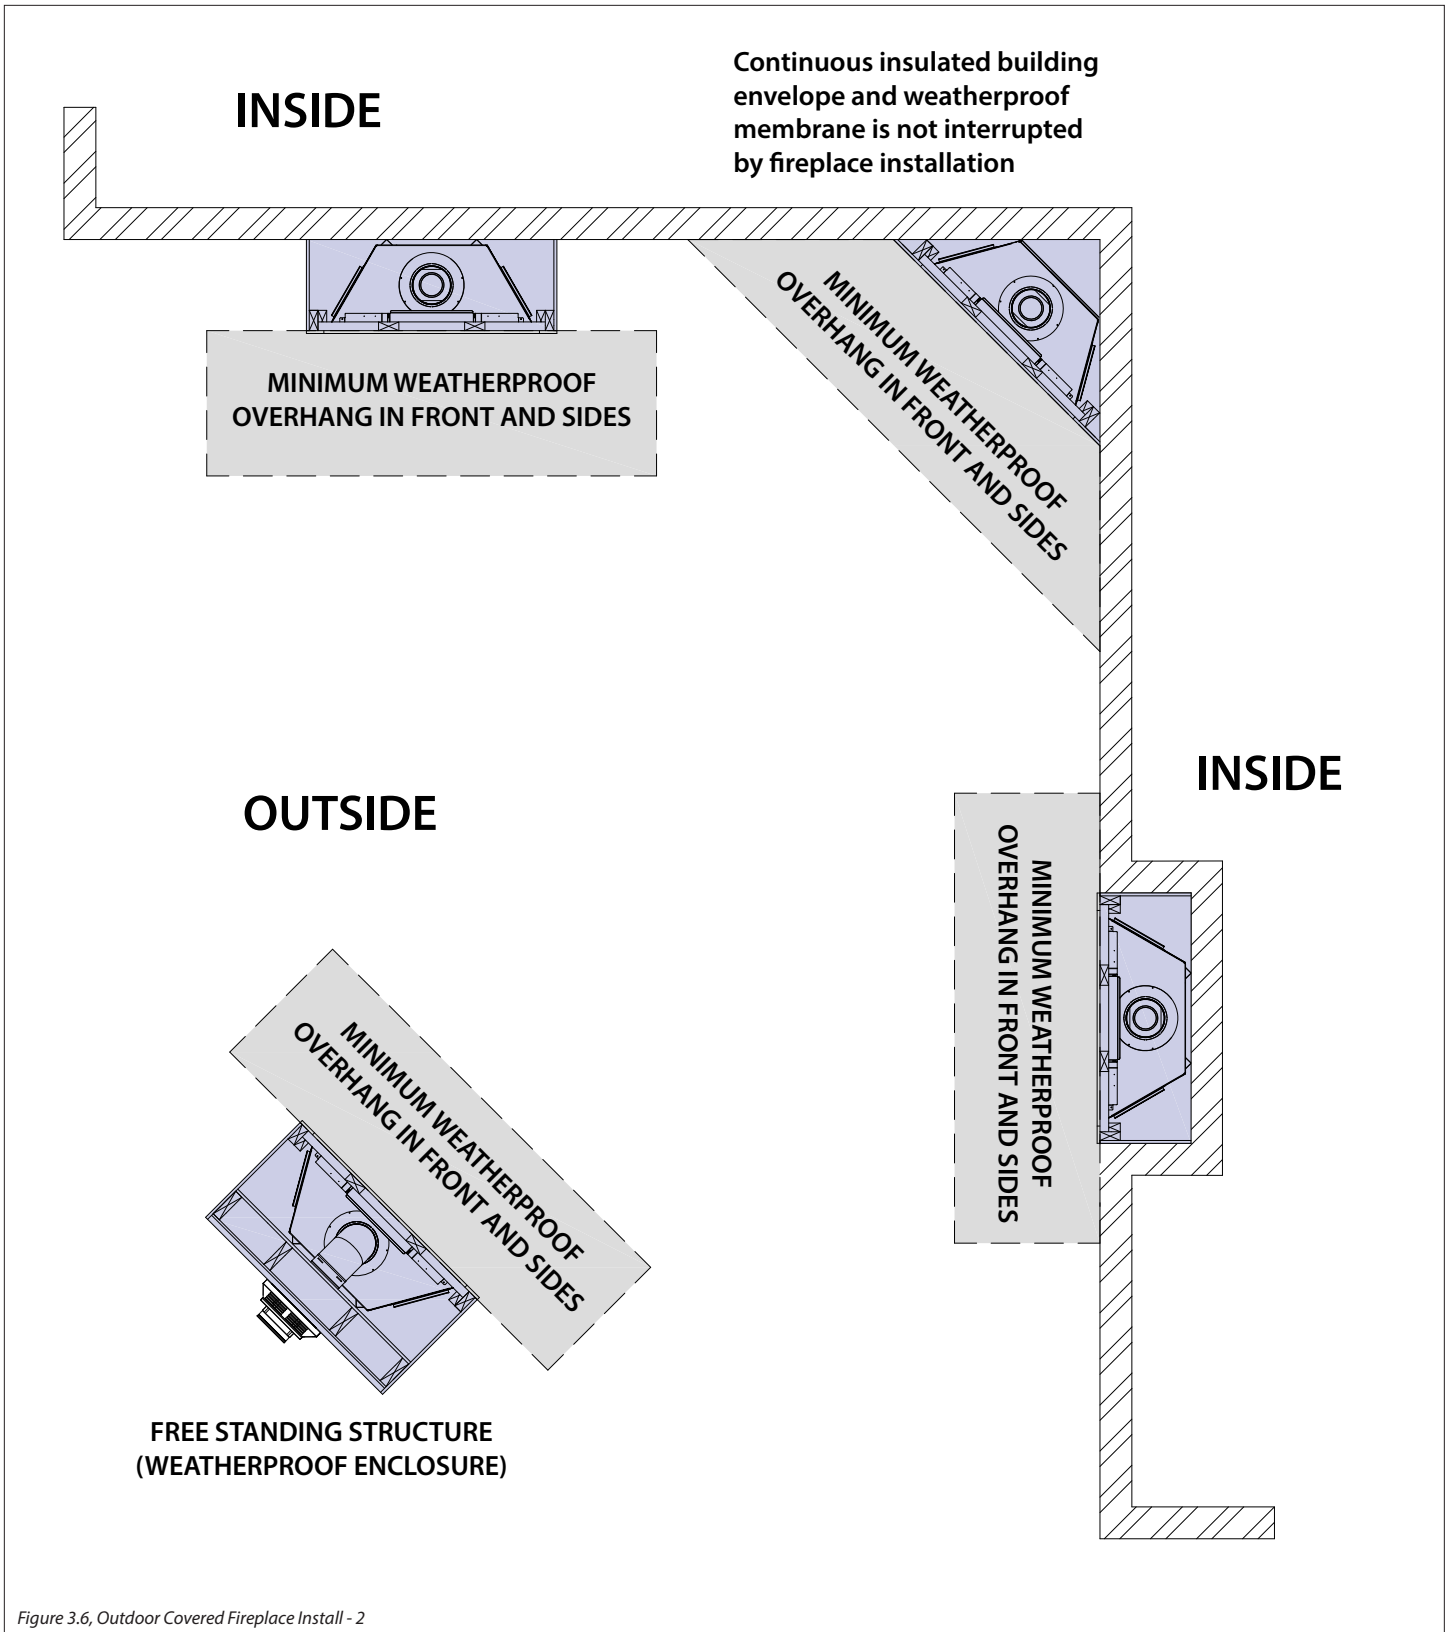

Figure 3.6, Outdoor Covered Fireplace Install - 2
- The continuous insulated building envelope and weatherproof membrane are not to be interrupted by fireplace installation. See Figure 3.6 on the following page.